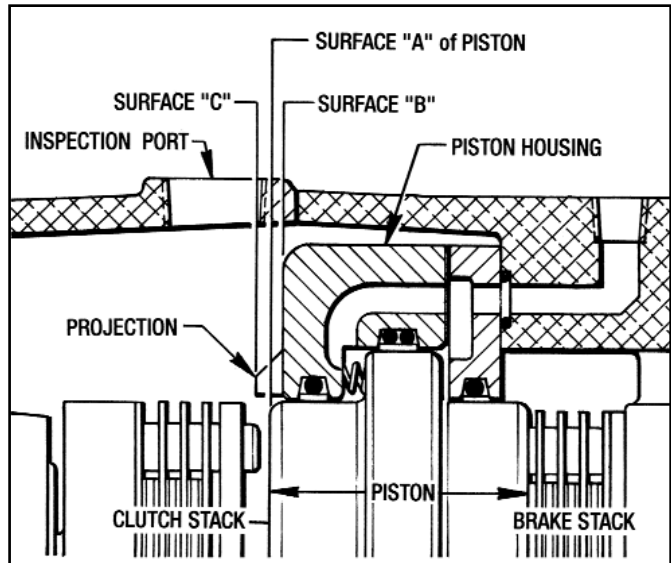

Figure 6.1 - Checking Stack Wear
An easy procedure has been established to visually check the Clutch and Brake Stacks for Wear to determine whether or not they need replaced. There is a **projection** on the back-face of the Piston Housing (#10) to enable you to visually check this. (See Figure 6.1)
2. Apply air pressure to the clutch port and with a flashlight observe the position of Surface "A" of the Piston. If this surface "A" is flush with Surface "C" the Clutch Stack is worn and needs to be replaced. (See Figure 6.1)
3. Apply air to the brake port and again observe the position of Surface "A" of the piston. If it is flush with Surface "B" of the piston housing, the Brake Stack is worn and needs to be replaced. (See Figure 6.1)